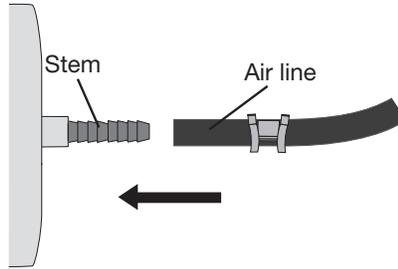

fig. 11
5. Push the air line onto the stem, covering all the barbs (Fig. 11). With the pliers, slide the air line clamp upward until it fully covers the barbed section.